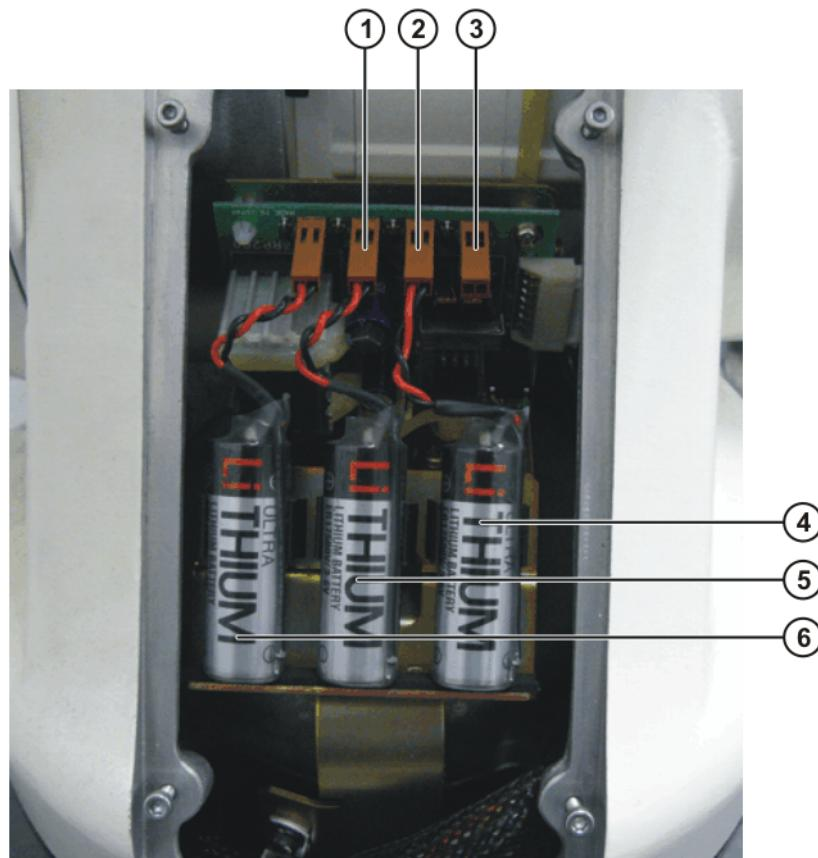

Fig. 9-3: Battery
3. Remove the battery (>>> Fig. 9-3) from the holder.